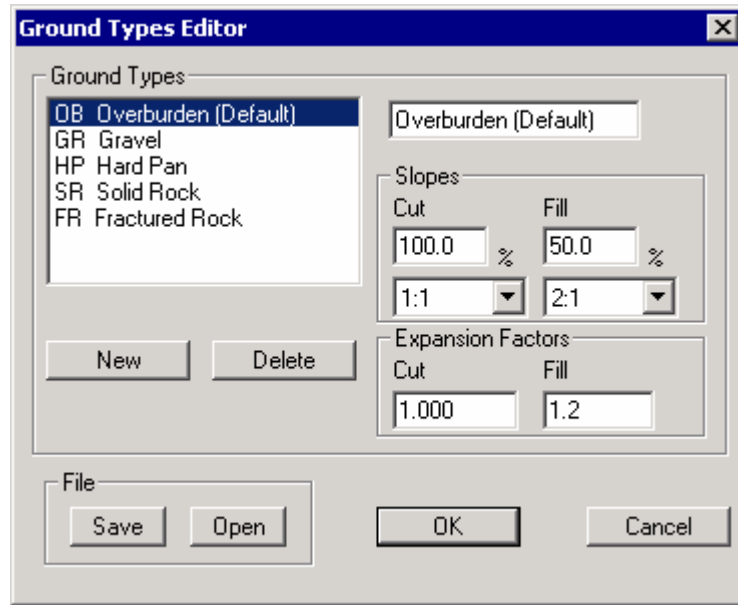

Figure 6.4: Expansion and Compaction Factors
- Expansion/compaction factors are set in menu Edit | Edit Ground Types. This activates the *Ground Types Editor* as shown in Figure 6.4.